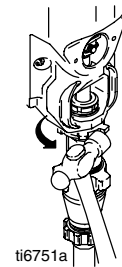

Fig. 14
6. Fig. 14. Screw jam nut (12) up onto pump until nut stops. Tighten jam nut by hand, then tap 1/8 to 1/4 turn with a 20 oz (maximum) hammer to approximately 75 +/- 5 ft-lb (102 N·m).